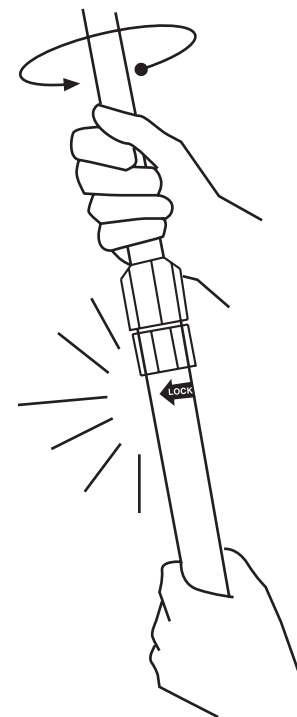

Fig. 2
3. Once the pole has been extended to the required length, lock the pole sections in position by turning the upper end of the pole clockwise until it snaps audibly into locking position and tighten the threaded collar. Verify that the telescopic sections are locked in position to ensure the desired length is maintained during the rescue procedure (Fig. 2).